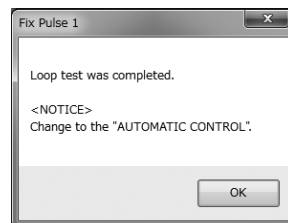

Fig.134
- ⑥ After the "Stop" button is clicked, a message box (Fig. 134) will be displayed. Click the "OK" button.